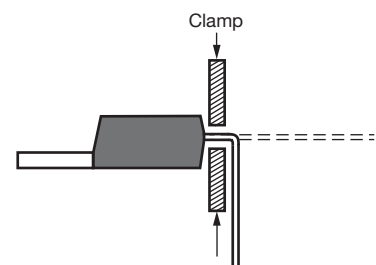

Fig. 5
- When bending the leads, they must be clamped between the device body and the bending point (Fig. 5).